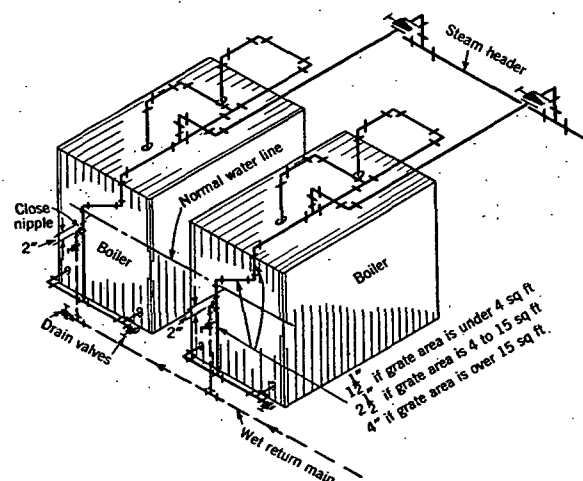

FIG. 5. THE HARTFORD RETURN CONNECTION
Fig. 5 shows this connection for a two-boiler installation. For a single boiler installation the connection is made as is indicated for one boiler. The essential features of construction of a Hartford Loop connection are: (1) A direct connection (made without valves) between the steam side of